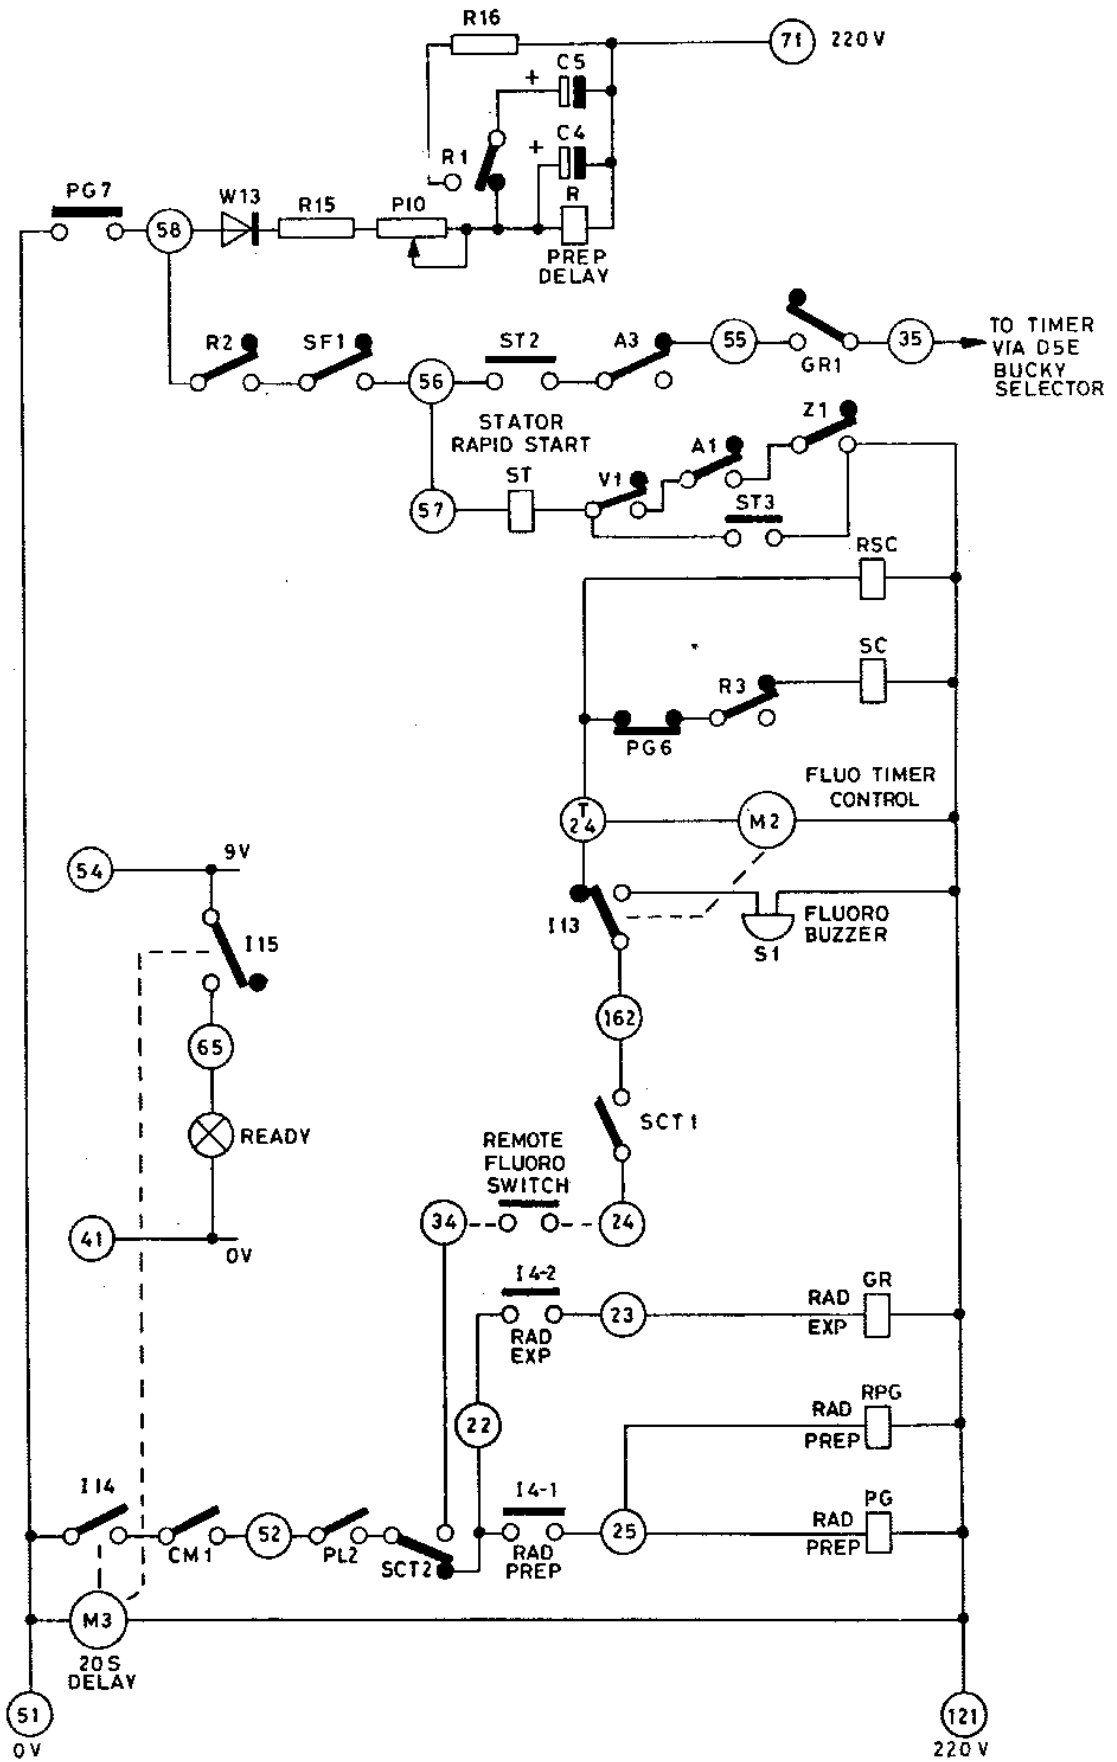

Fig 40 FLUO/RAD PREP & EXP CIRCUITS
9.7 FLUOROSCOPY MODE OF CONTROL (Fig 40, page 90)
9.8.1 Preparation Control Circuits (Fig 40 page 90)
PG/7 Closes to supply 220 volts to the prep delay relay and tube stator control circuits (see grid ref 3F of Fig 34 and also Fig 40).
9.8.2 Expose Control Circuits (Fig 40)